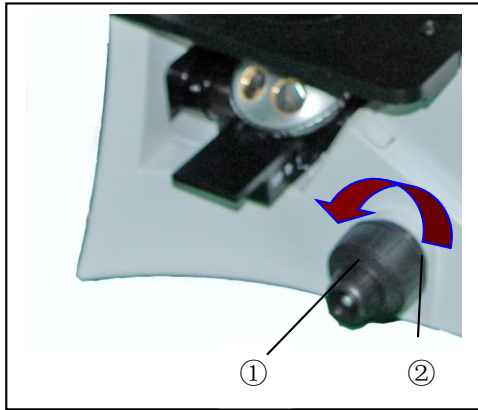

Fig 8
2.2.6 Installing the objective (fig8, fig9)